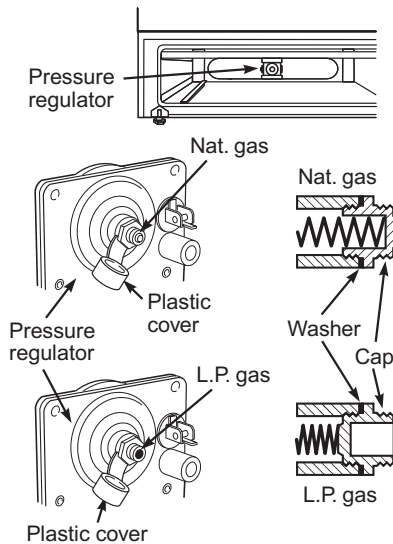

Figure 8
3. Pressure regulator: See Figure 8. Remove plastic cover. Turn cap marked "N" on front of pressure regulator counterclockwise with a wrench to remove. **Do not remove the spring beneath the cap.** Turn the cap over and reinstall cap on regulator so that the hollow end faces out and the letters "L.P." are visible.